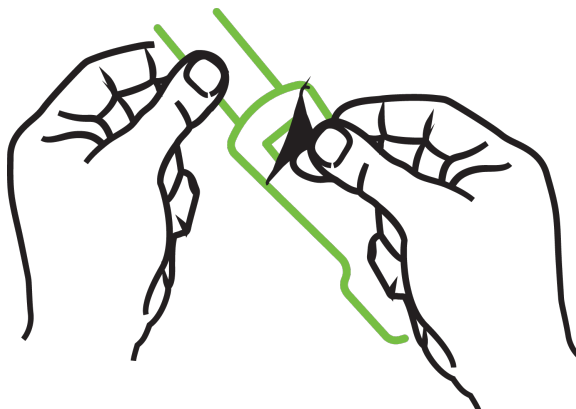

Figure 12-10: Removing protective liner from sensor
2. Remove and discard the protective liner from the sensor (Figure 12-10 on page 232).